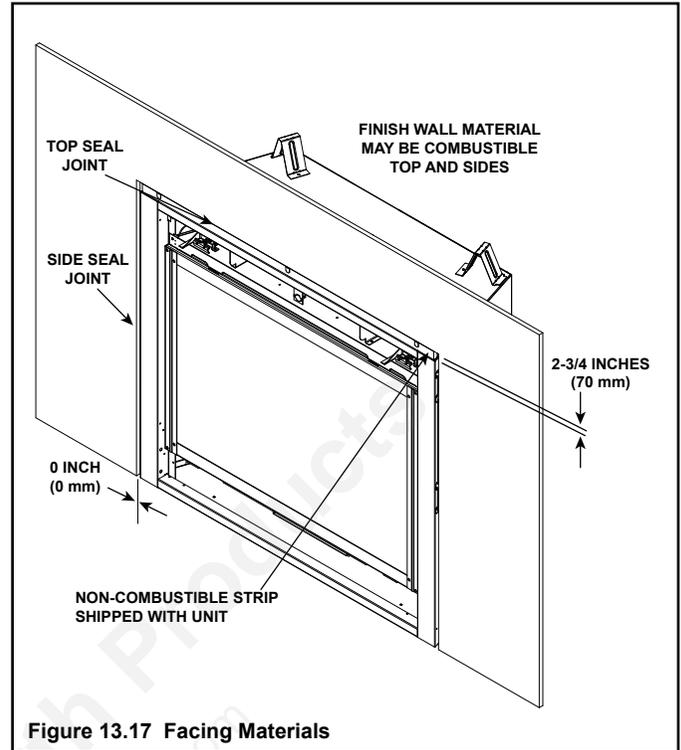

Figure 13.17 Facing Materials
- Seal joints between the finished wall and appliance top and sides using a 300 °F minimum sealant. Refer to Figure 13.17.